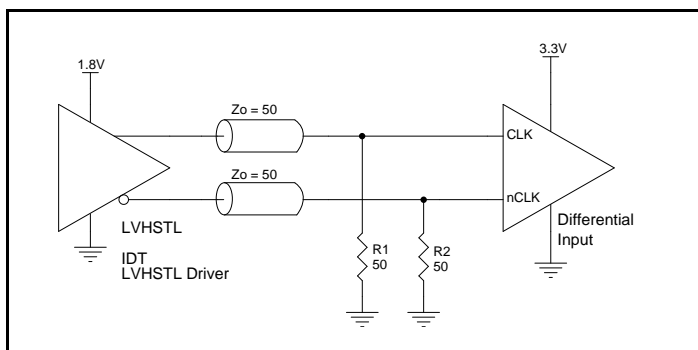

**Figure 2. Single-Ended Signal Driving Differential Input**
*Figure 2* shows how the differential input can be wired to accept single-ended levels. The reference voltage  $V_{REF} = V_{DD}/2$  is generated by the bias resistors  $R1$ ,  $R2$  and  $C1$ . This bias circuit should be located as close as possible to the input pin. The ratio of  $R1$  and  $R2$  might need to be adjusted to position the  $V_{REF}$  in the center of the input voltage swing. For example, if the input clock swing is only  $2.5\text{V}$  and  $V_{DD} = 3.3\text{V}$ ,  $V_{REF}$  should be  $1.25\text{V}$  and  $R2/R1 = 0.609$ .